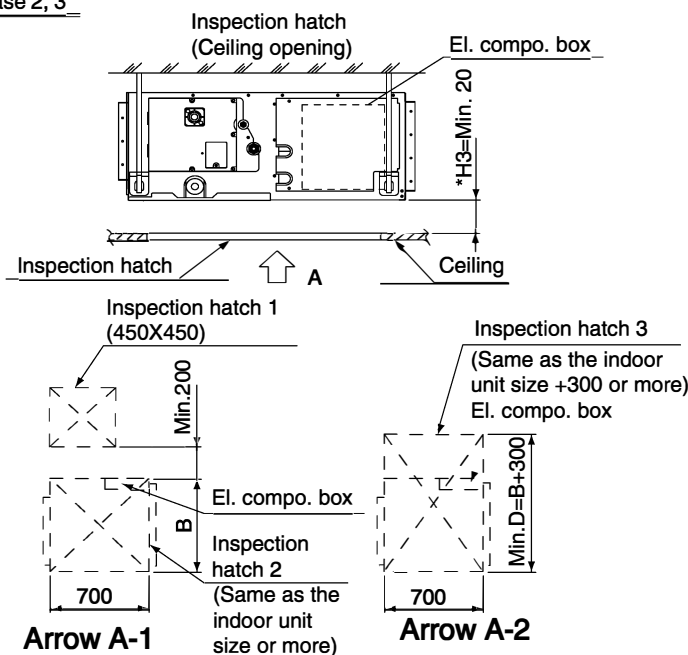

Fig.2-3
2. Inspection hatch 1 (450 × 450) on the control box side and inspection hatch 2 on the bottom of the product. (Fig. 2-3, arrow A-1)
3. Inspection hatch 3 on the bottom of the product and on the bottom side of the control box, see direction view A-2 (Refer Fig. 2-3)